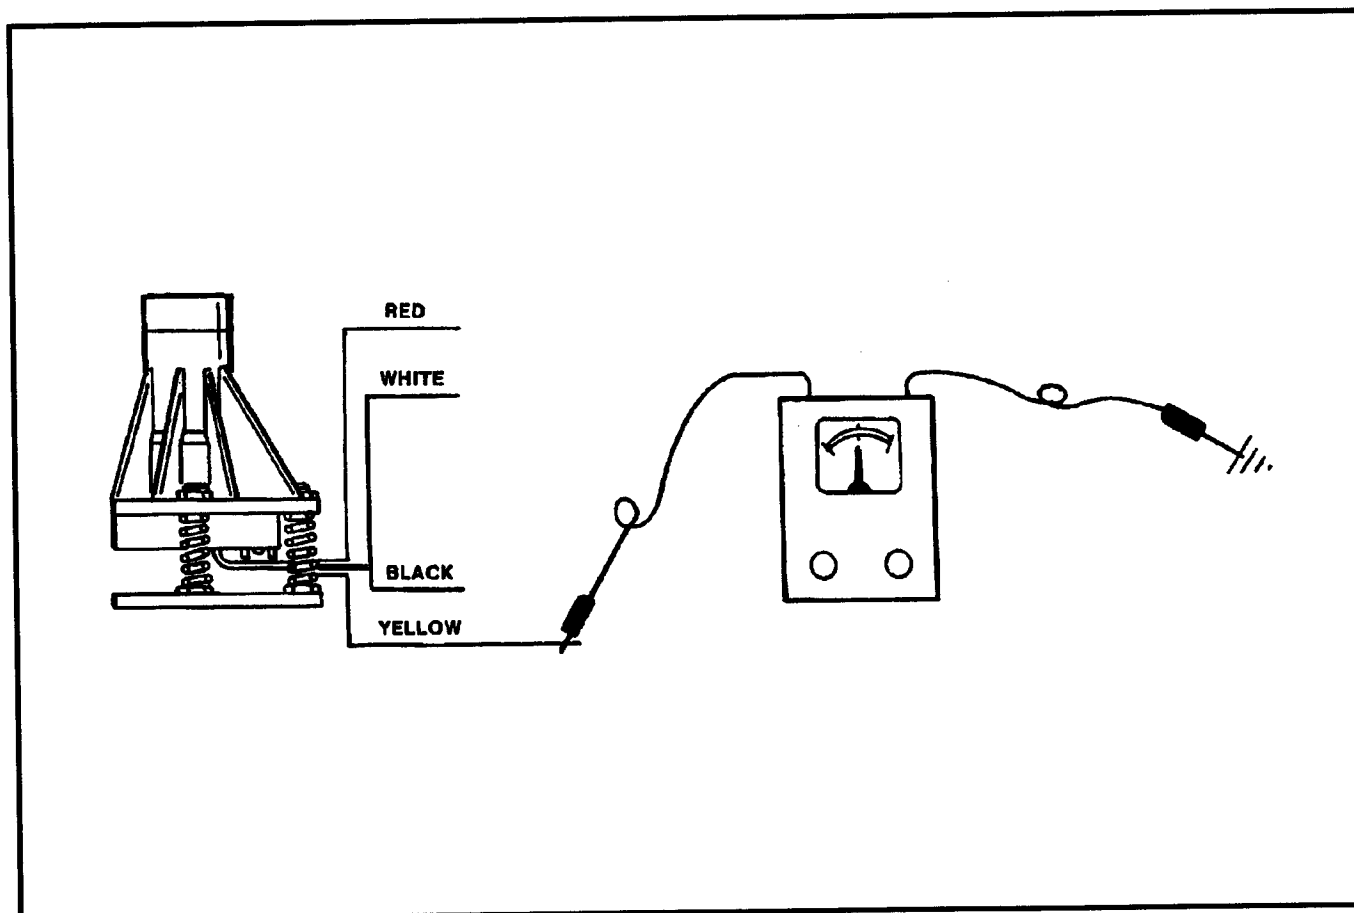

Figure 2-16. Tilt Switch Leveling - Voltmeter Adjustment.
• **Voltmeter Adjustment. (See Figure 2-16.)**